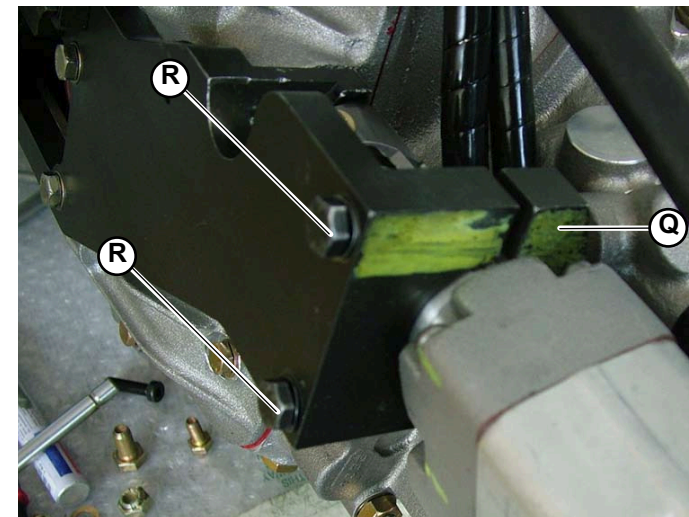

Fig.6
8. Secure the reset tool on the coupling using the U-bolt (**Q-Fig.6**), tightening it with the 2 screws (**R-Fig.6**).